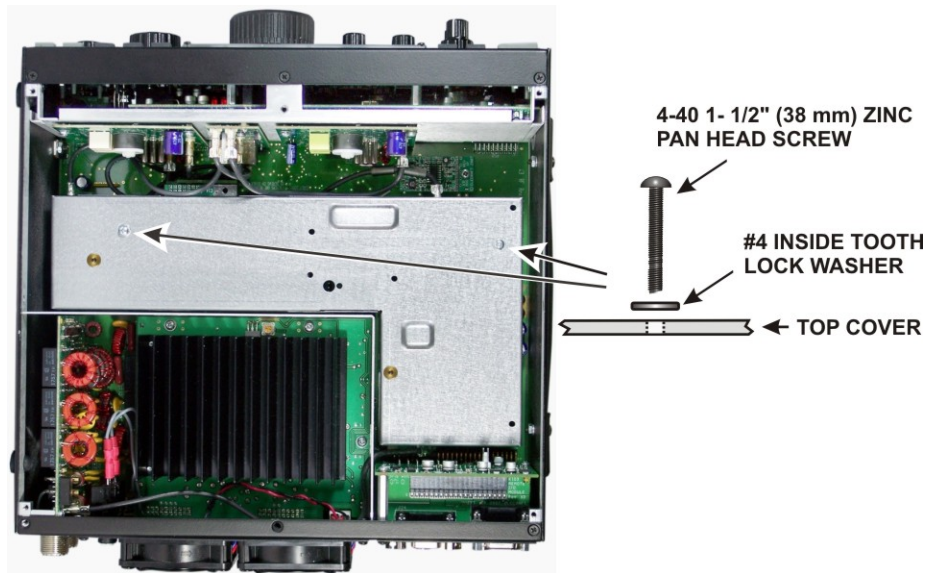

Figure 3. Removing the KRX3 Module.
If you do not have the KRX3 sub receiver installed, go directly to *Removing the Bottom Covers and KIO3 Board* on page 9. The KRX3 sub receiver module is the “L” shaped metal enclosure (see Figure 3). Remove the sub receiver module as follows:
- Remove the two 1-1/2” (38 mm) screws and lock washers shown in Figure 3. These screws extend all the way through the KRX3 module and secure it to standoffs mounted on the main RF board that fills the bottom of the K3.